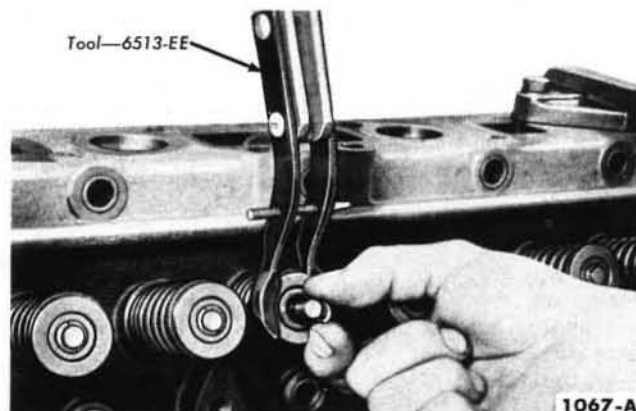

FIG. 18—Valve Stem Lock Removal or Installation
2. Compress the valve spring (Fig. 18), then remove the valve retainer locks and release the spring. Remove the valve, spring retainer, spring, and valve. Discard all valve
2. Install the valve spring, then install the valve spring retainer, and sleeve. Compress the spring, and install the retainer locks (Fig. 18).